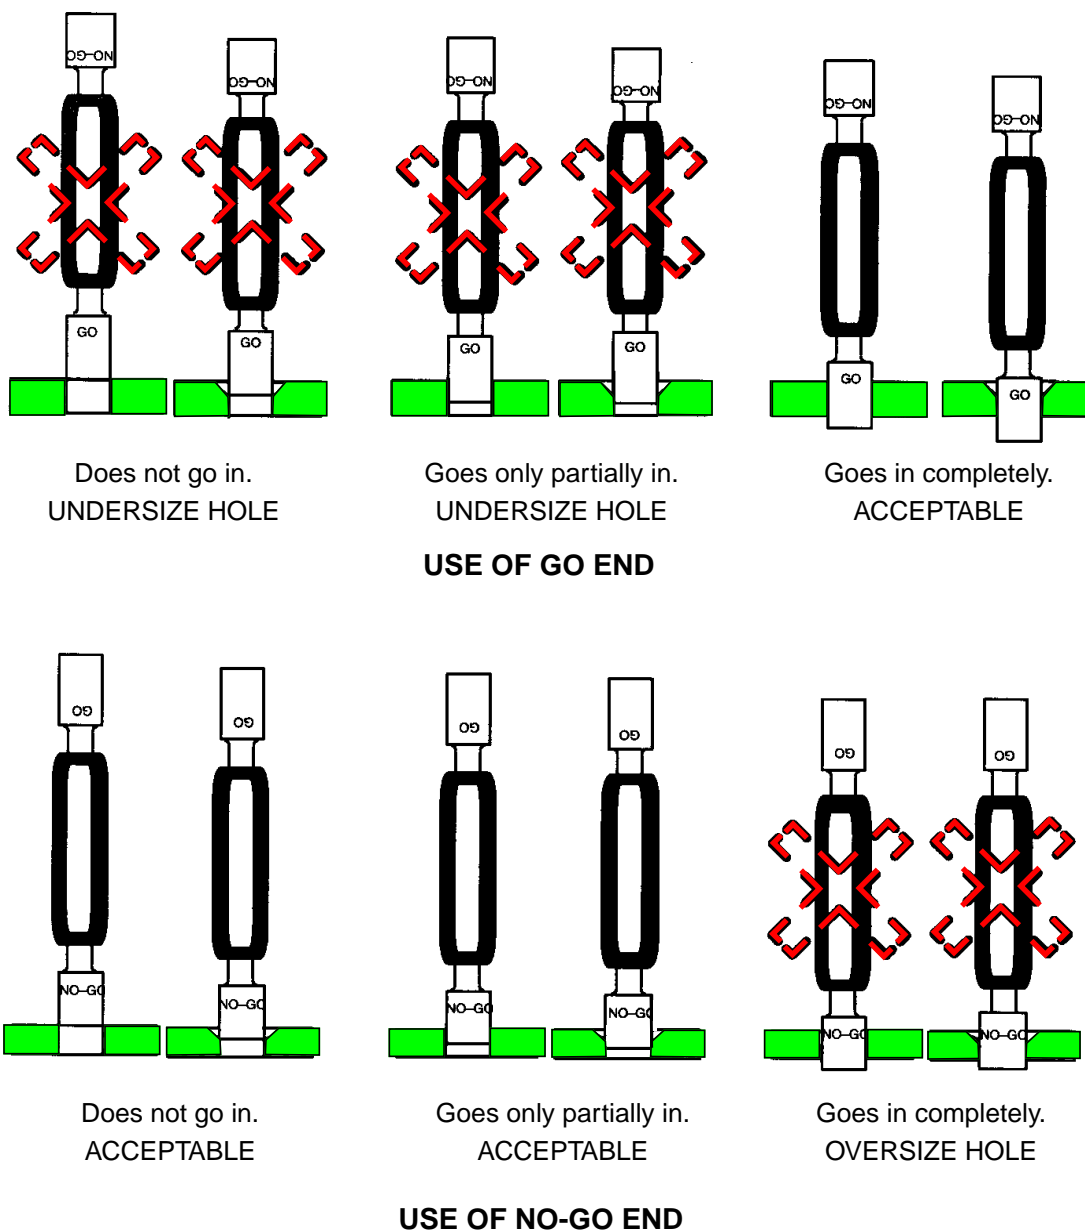

Figure 8 - Use of Go/No-Go Gauges
5.3.1 Check selected fastener holes for conformance to the requirements of Table 4 using the applicable GO/NO-GO gauge as follows (see Figure 8):